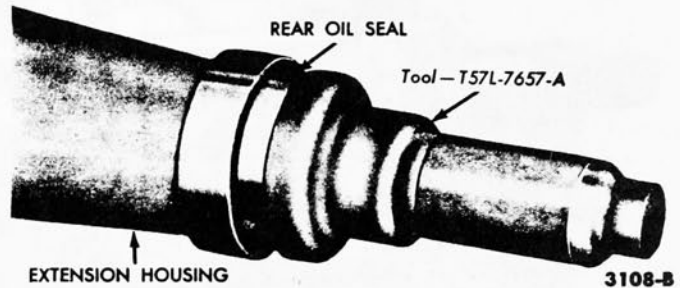

FIG. 6—Seal Installation
7. Drive the seal into the housing with the tool shown in Fig. 6. The seal should be firmly seated in the bore. Install the drive shaft.